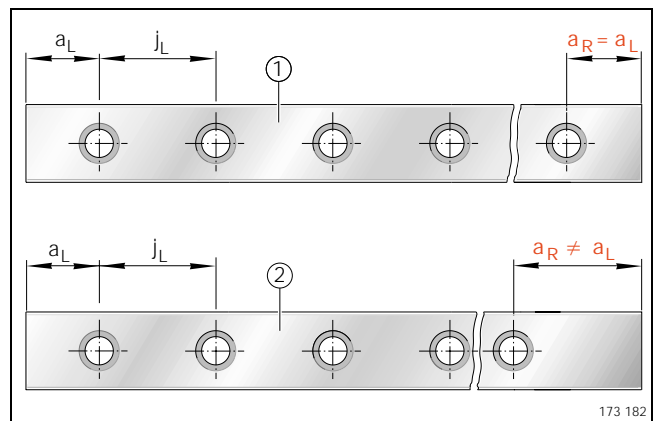

Figure 5 · Symmetrical ① and asymmetrical ② hole patterns for guideways with one row of holes
The guideways have a symmetrical hole pattern (Figure 5). For an asymmetrical hole pattern (customer request), the following must apply:
- $a_L \geq a_{L\min}$  and  $a_R \geq a_{R\min}$  (Figure 5).